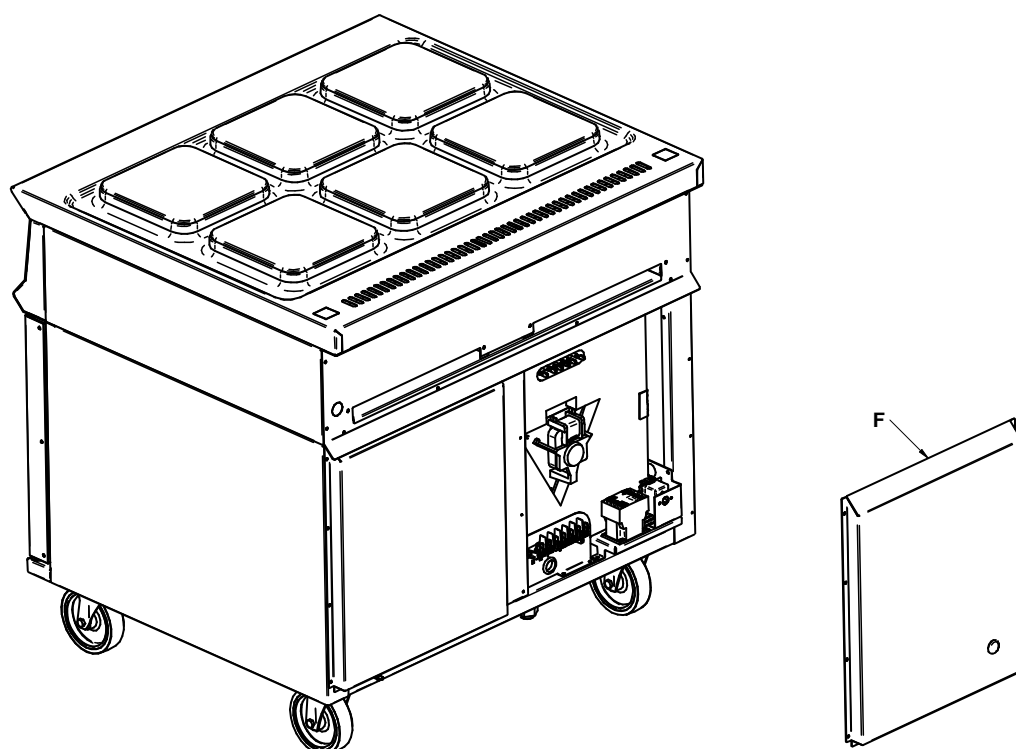

Fig 5
Working from the back of the appliance (Fig 5), remove the cable channel (E) and rear cover (F).